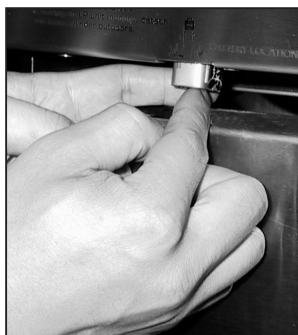
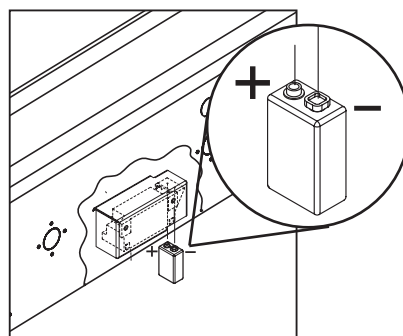

FIG. 32
FIG. 33
4. Re-install upward and push to snap - Fig. 32. (Polarity is shown in Fig. 33).